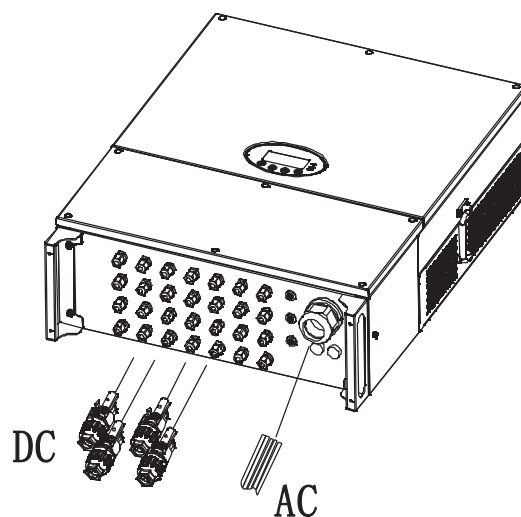

Figure 4.17 Connect PV string to inverter
- (1) Connect PV string to the inverter and ensure tightly-fastened, as shown in Figure 4.17
- (2) When removing the DC connector from the inverter, insert the head of the straight screwdriver into the raised hole in the middle of the connector, and force the movable end of the connector to exit.